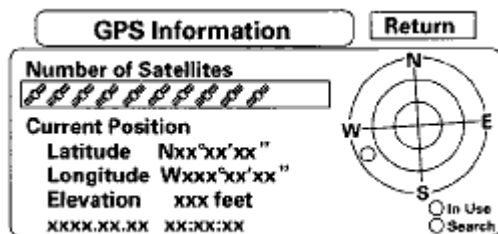

Fig. 109: Diagnostic Menu Screen Display - GPS Information
- If the row of data in the table below begins with a "yellow dot", the AZI and EL fields can be used to locate each satellite on the circular GPS diagram (see **Fig. 109**).